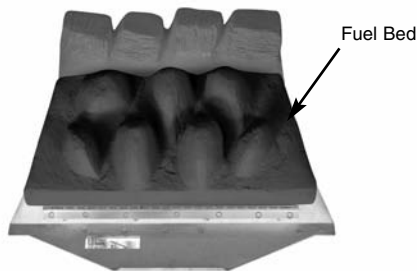

Fig. 46
2. Place the main fuel bed on to the middle section of the metal burner tray. It is important that the front edge of the fuel bed is located behind the burner strip (Fig. 46).